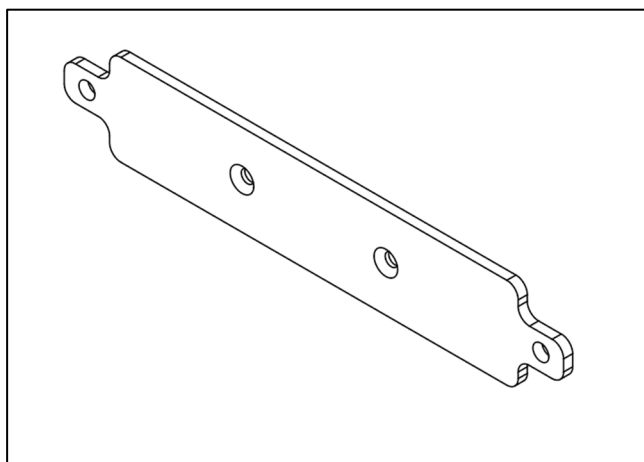

Figure 8.- Mounting kit accessory – fixing plate 0017M
- Fixing plate 0017M (Aluminium) – 1 unit (Figure 8). See accessories catalogue MUSPAI-1 for more information.
- When installing the Thermoelectric generator with the mounting accessory (Figure 8), make sure that the bottom of the mounting accessory surface has good contact with the hot surface and there are no gaps to avoid the poor performance of the module.